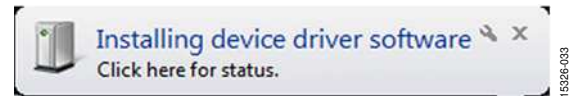

Figure 32. **Installing device driver software** Message
1. Verify that the **SDP-B** board is connected to the PC using the USB cable. The window in Figure 32 appears on the task bar; Windows then installs any other necessary drivers.